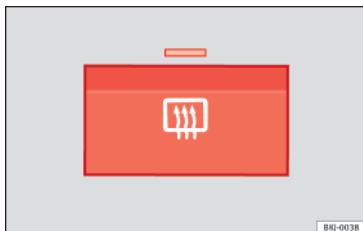

Fig. 126 Together with the air conditioning controls: heated rear window switch.
- Press the demisting button » **Fig. 126**